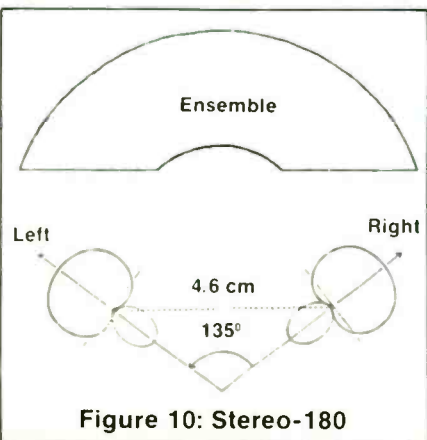

Figure 10: Stereo-180
4. Olson Stereo 180 (Figure 10), involves the use of two hypercardioids angled at 135° , and spaced 4.6cm (1.8 inches) apart³. Since polar patterns vary for different hypercardioid microphones, it is worth experimenting with various inter-mike spacings, and orientation angles.